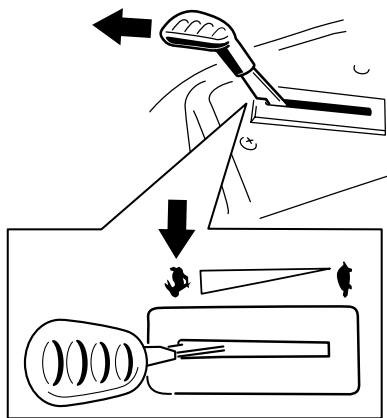

Figure 15
**Note:** Always engage the blades with the throttle in the FAST position (Figure 15).